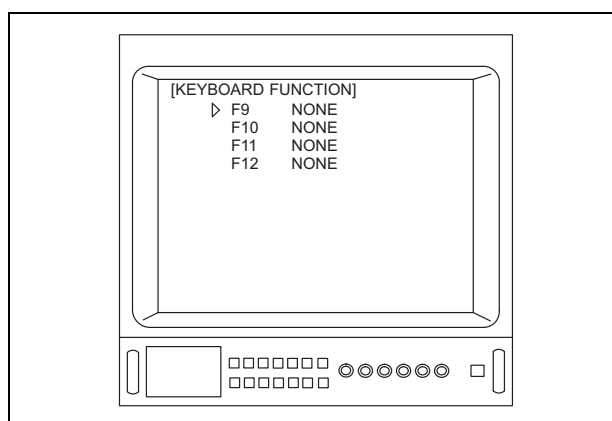

Figure 5.65
1. Depress the “Alt” key and “B.O.D.” key on the keyboard at the same time to display the menu (see Figure 5.65).
Depending upon the OTV-S7V's settings, the menus shown in Figures 5.65 and/or 5.66 may appear different from those displayed on the video monitor.